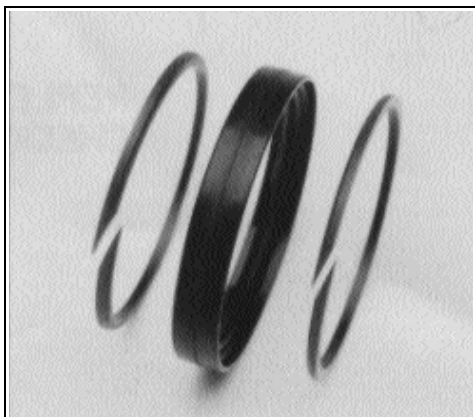

Figure 7. Plunger Seal.
plastic support rings (Figure 7). If no wear is evident and plunger fits snugly into seal, renewal is not necessary. Seal may NOT be reused if it is removed from plunger body.
7. To replace seal, insert first plastic ring into bore. Note orientation of beveled ends. (See Figure 7).